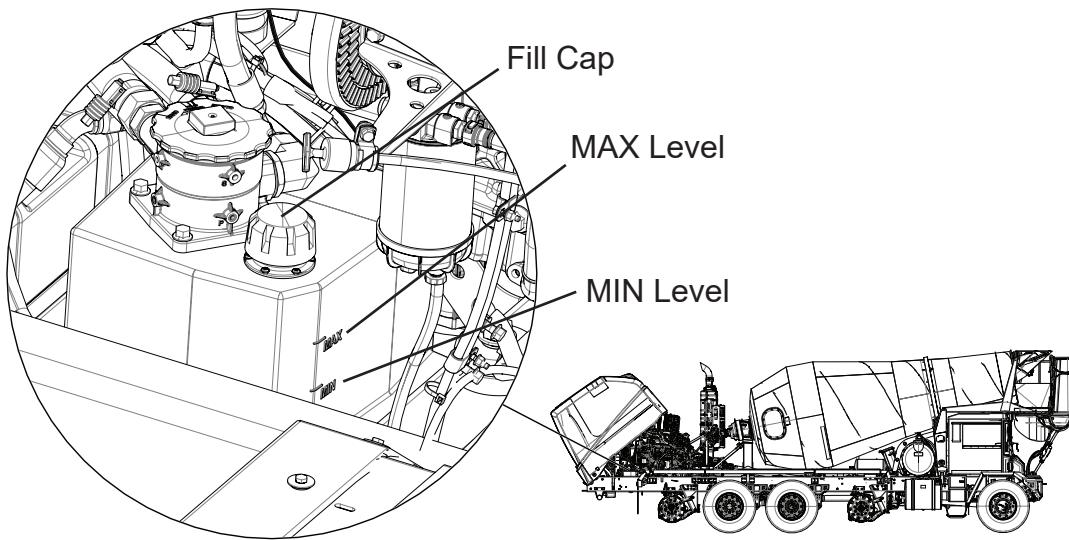

Figure 12 - Hydraulic Reservoir Fill
19. Clean the area around the hydraulic reservoir fill cap, see Figure 12.